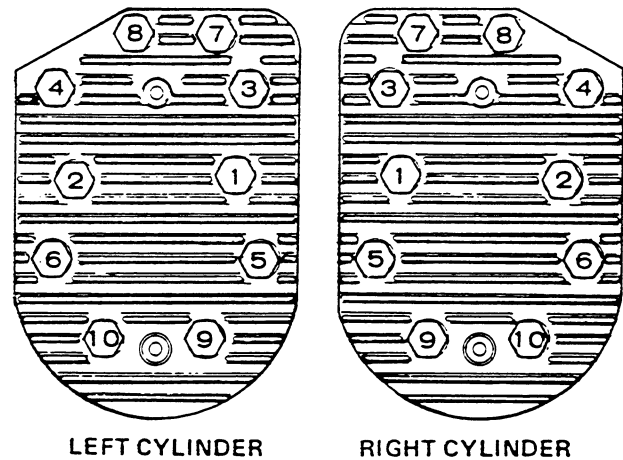

FIGURE 65. HEAD BOLT TIGHTENING SEQUENCE
4. Place heads in position and follow head torque tightening sequence shown in Figure 65. Start out tightening all bolts to 5 ft-lb (7 N•m), then 10 ft-lb (14 N•m), etc., until all bolts are torqued to 15 ft-lb (20 N•m).